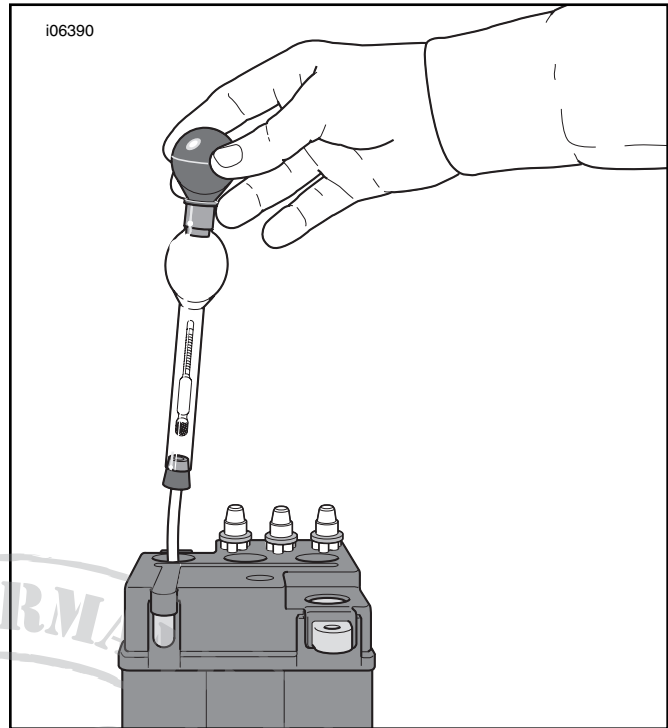

Figure 4. Hydrometer
6. See Figure 4. Measure specific gravity with a HYDROMETER (Part No. HD-96910-35). Charge battery until specific gravity of electrolyte increases to 1.260 - 1.270 at 80° F (27° C). Cell variance must not exceed 0.010 specific gravity.